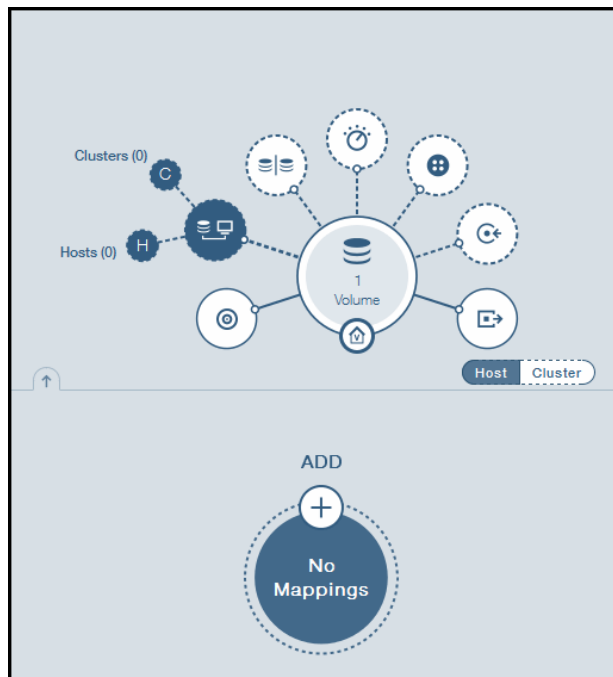

Figure 3-22 Add a new Mapping to the destination volume
- Click the plus sign (+) below the Hub to add a new mapping, as shown in Figure 3-22.